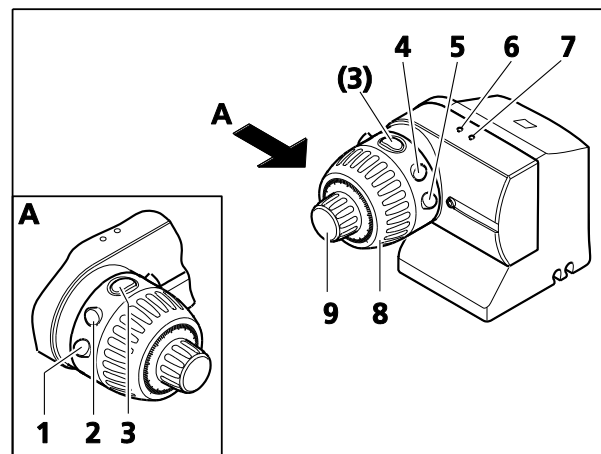

Fig. 34 MaRC control unit
- Control of focus motor by using the coarse (Fig. 34/8) and fine drive knob (Fig. 34/9).
- Travel to zoom clickstop positions by pressing briefly keys **1** and **2** (Fig. 34/1 and 2).
- Quick zooming in positive and negative directions by means of a pair of keys – long press of keys **1** and **2** (Fig. 34/1 and 2).
- Quick focusing in positive and negative directions by means of a pair of keys – long press of keys **4** and **5** (Fig. 34/4 and 5)
- Storing a focus position – key **3** (Fig. 34/3).
- Travel to the stored position – key **3** (Fig. 34/3).
- Reversing the sense of rotation of the MaRC unit – key **3** (Fig. 34/3).
If a focus motor ready for operation is connected, the blue LED (Fig. 34/7) will be lighting.
The motorized focus can be controlled quickly or slowly by turning the coarse (Fig. 34/8) or the fine drive (Fig. 34/9).
By briefly (≤ 200 ms) pressing key **1** or **2** (Fig. 34/1 or 2), the zoom body will travel to the next lower or next higher clickstop position.
By pressing key **1** or **2** (Fig. 34/1 or 2) for more than 200 ms, the zoom body will start traveling and not stop until you release the respective key or the end of travel is reached.
By pressing key **4** or **5** (Fig. 34/4 or 5), the motorized focusing system will start traveling upwards (**5**) or downwards (**4**) until you release the respective key or the end of travel is reached.
The current focus position will be stored when key **3** (Fig. 34/3) is being pressed between 2 s and 5 s.
The green LED (Fig. 34/6) briefly lighting up and **one** short beep tone on the motorized focusing system will indicate the completion of the storing process after 2 s.
When pressing key **3** (Fig. 34/3) for less than 2 s, the motorized focusing system will travel to the stored focus position.
The sense of rotation will be reversed when key **3** (Fig. 34/3) will be pressed for more than 5 s.
The green LED (Fig. 34/6) briefly lighting up twice and **two** short beep tones on the motorized focusing system will indicate that change-over has been completed.